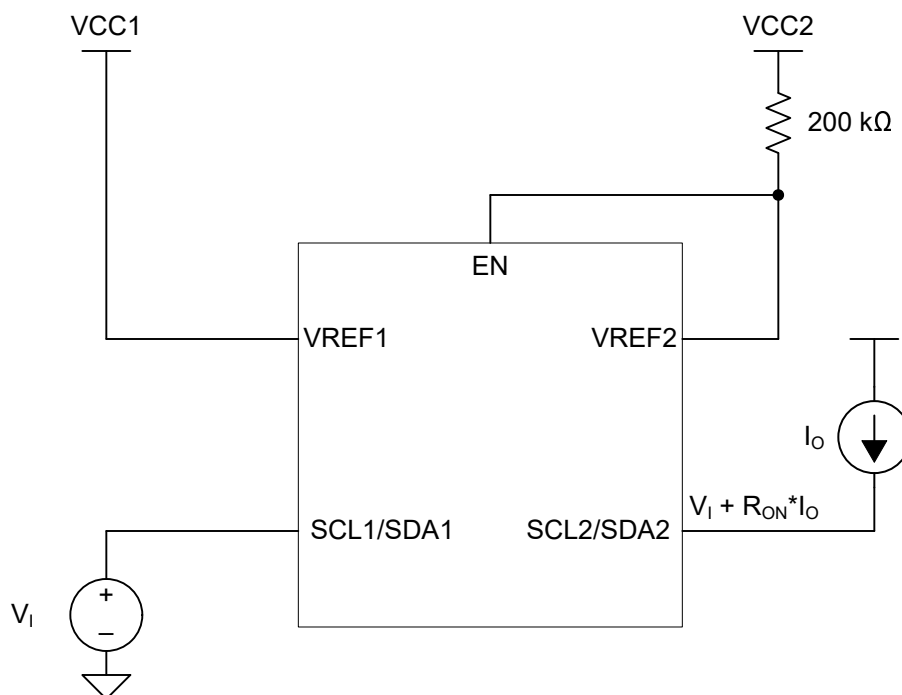

Figure 6-3. Application Setup for R_{ON} Delay
(5) Measured in application connected current source configuration only. See Figure 6-3